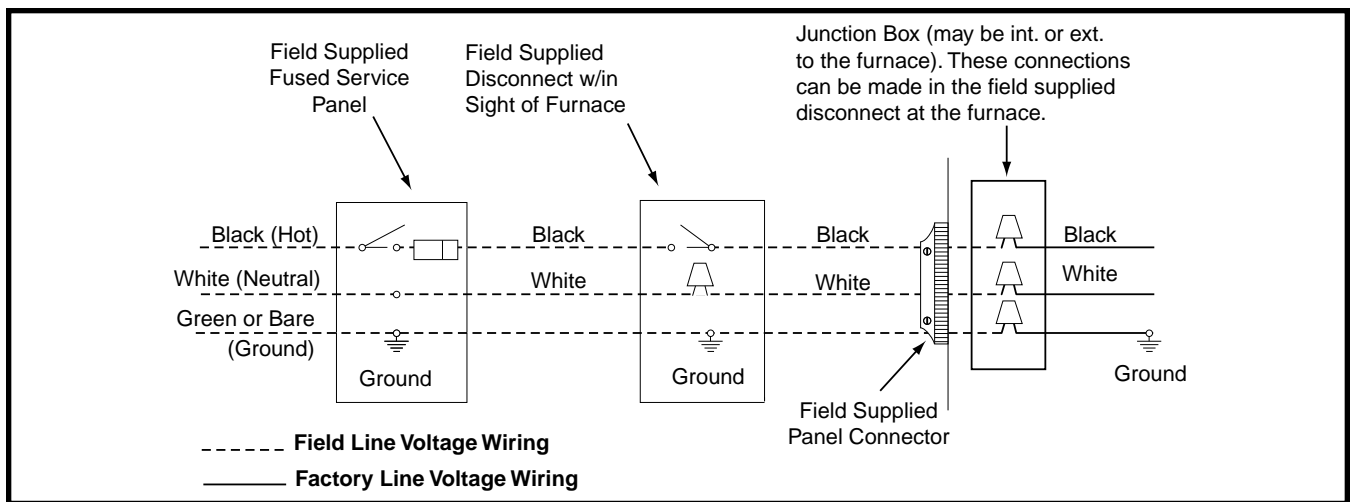

Figure 20. Line Voltage Field Wiring
- **An electrical disconnect must be installed readily accessible from and located within sight of the furnace. See Figure 20 (page 25) or the wiring diagram label inside of the control door. Any other wiring methods must be acceptable to authority having jurisdiction.**
- **Proper line voltage polarity must be maintained in order for the control system to operate correctly. Verify the incoming neutral line is connected to the white wire and the incoming “Hot” line is connected to the black wire. The furnace will not operate unless the polarity and ground are properly connected as shown in Figure 20.**